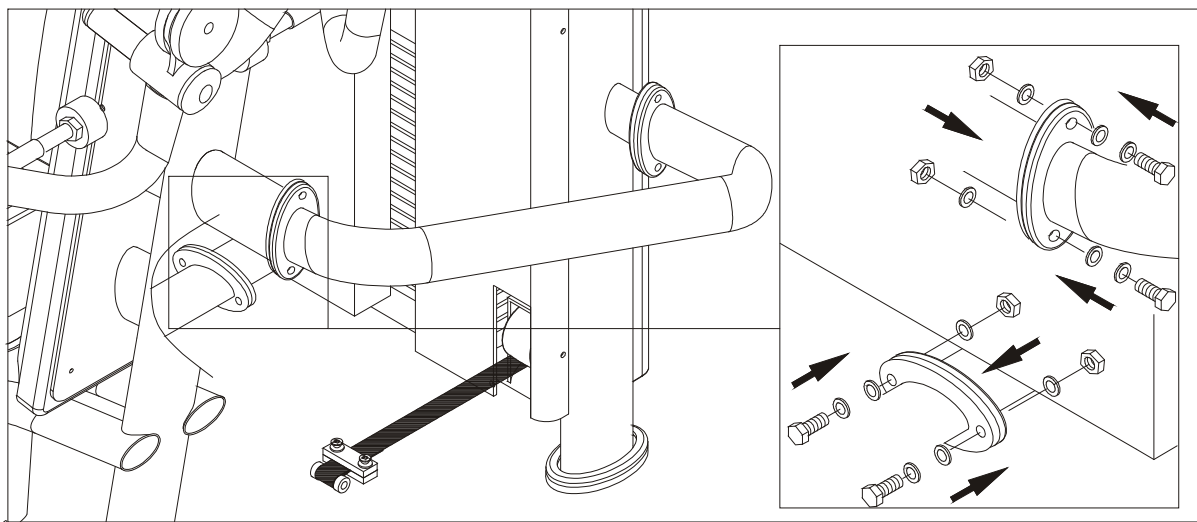

Fig.2
3. Hold the frame during assembly, then tighten the frame as shown in the diagram with the screws provided (item 5,6,7 as listed in parts list). (See Fig. 2)